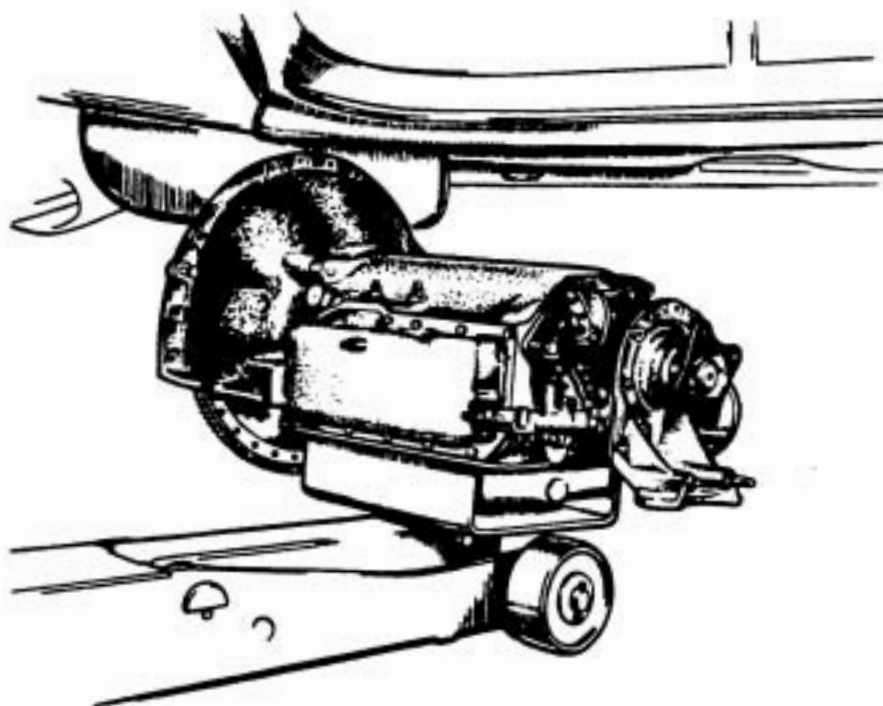

FIG. 4. REMOVING GEARBOX FROM UNDERNEATH SIDE OF CAR.
33. With special tray fitted to movable lifting jack as shown in Fig. 4, slide jack under gearbox sump and just take the weight off the gearbox.